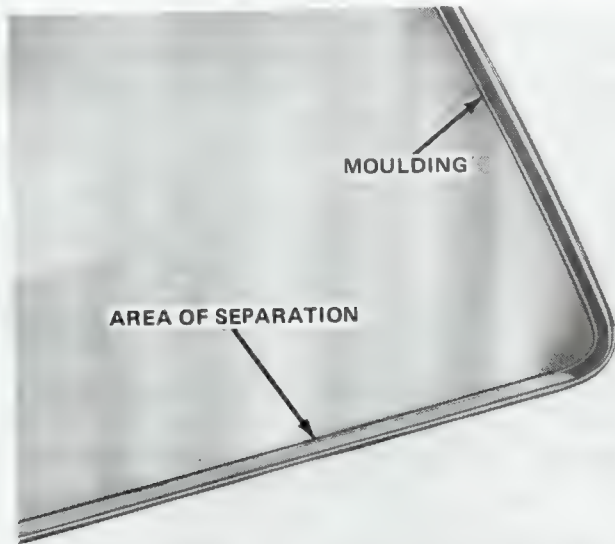

Fig. 3H-7 Area of Moulding Separation from Glass
(1) Scrape away dirt and loose adhesive with a razor blade. Clean/flush area of separation (fig. 3H-7) with AM Fabric Cleaner or trichloroethane. Allow cleaner to dry completely or blow dry with compressed air.